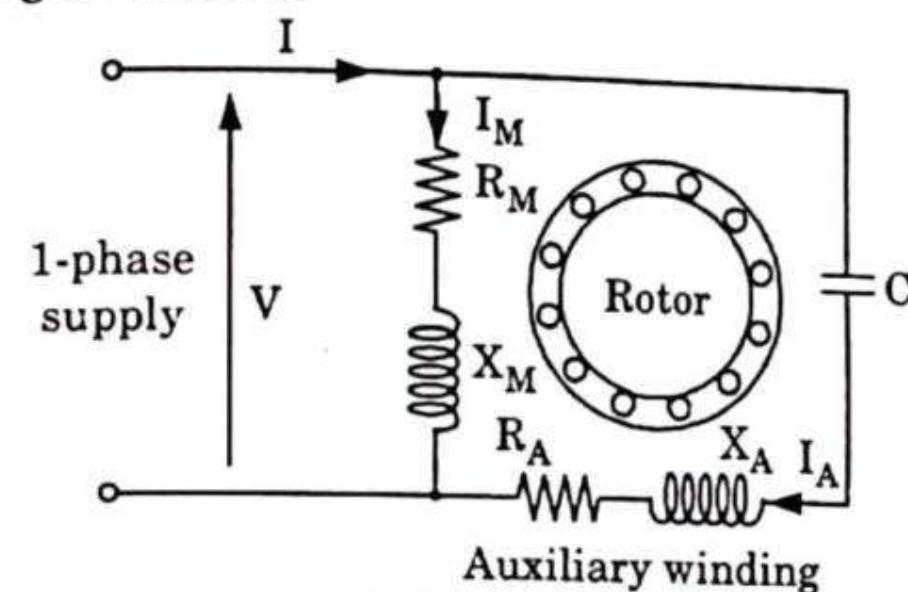

Fig. 4.31.3. Permanent-split capacitor motor.
1. A permanent-split capacitor (PSC) motor is shown in Fig. 4.31.3.